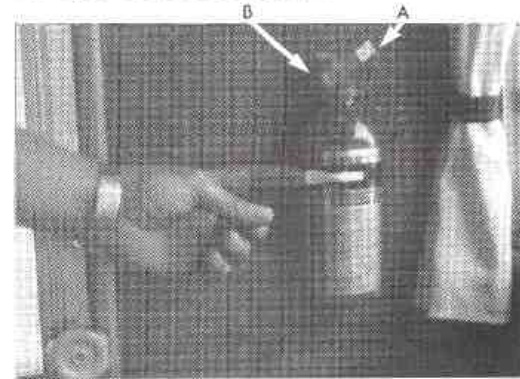

FIGURE 38
Each Four Wheel Camper is equipped with a disosable 2-BC Fire Extinguisher. To use, remove the fire extinguisher from the carrying bracket by releasing the strap lever with your index finger (Fig. 38). Pull off protective seal (A). Then point at the base of the flame and depress the discharge button. To test your extinguisher for pressure push the green pin (B) in. If the pin fails to pop out again it is discharged and should be replaced.